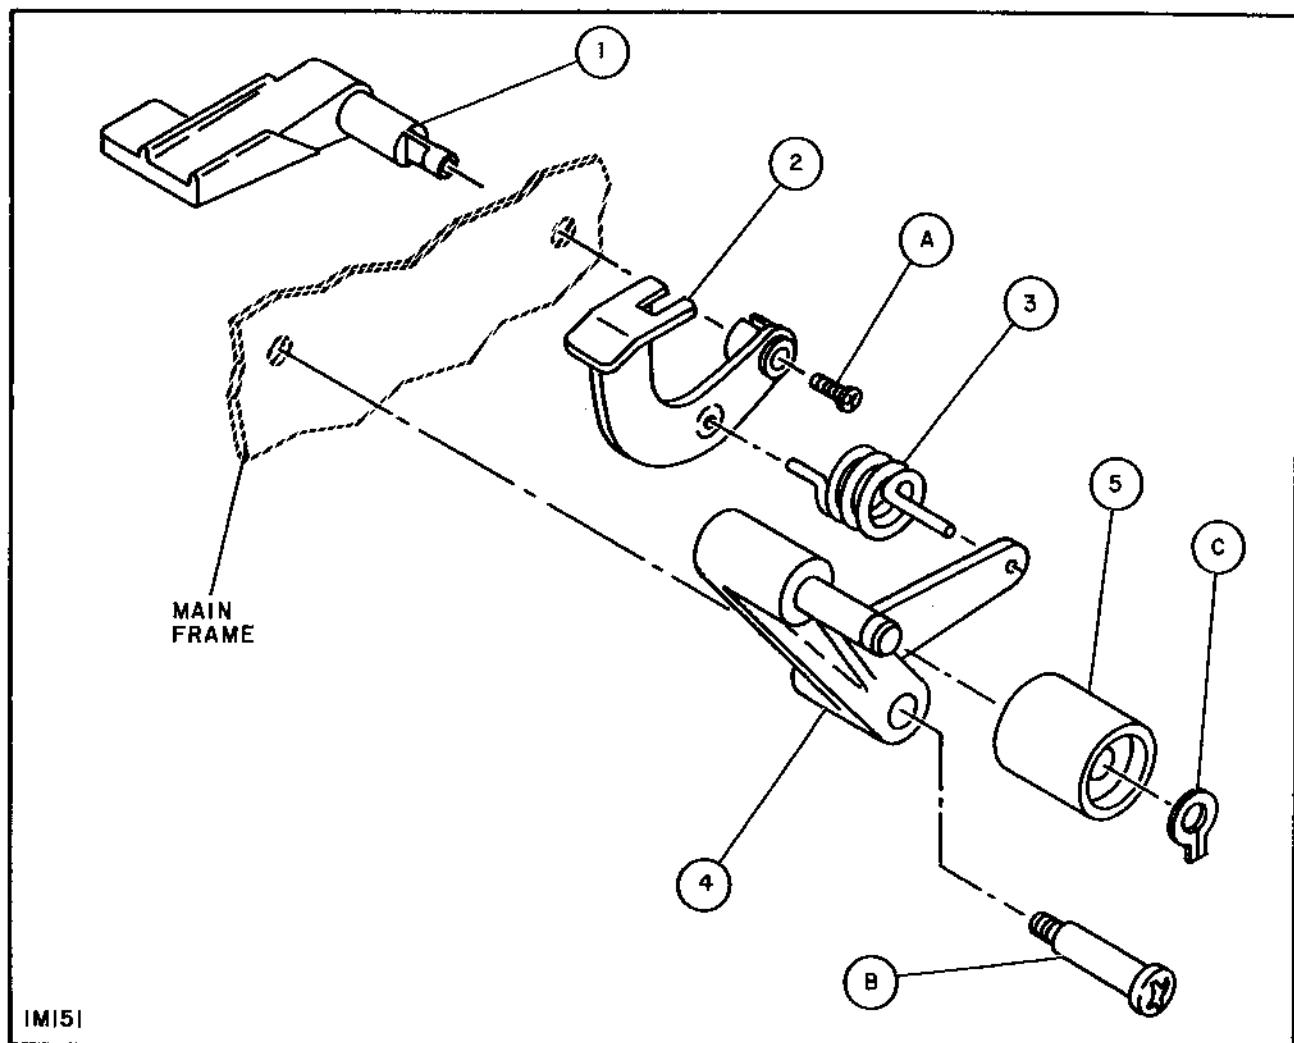

Figure 21
3. Remove screw ④, rewind arm ④, and spring ③.
4. Remove screw ①, slide knob ①, and lever ② out of casting. (Figure 21).
5. To remove roller ⑤ remove retaining ring ⑥.